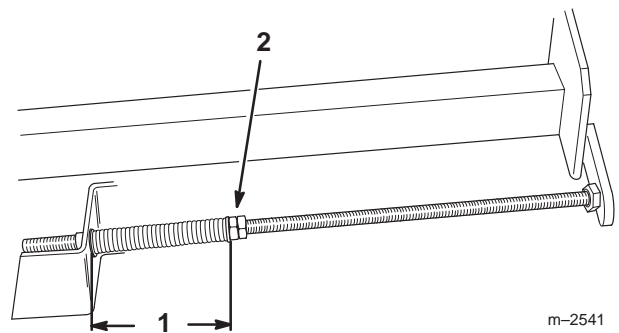

Figure 26
3. Belt Guide (2)
6. Tighten the jam nuts on the adjusting shafts until the springs are compressed to a length of 5" (12.7 cm) (Fig 26).